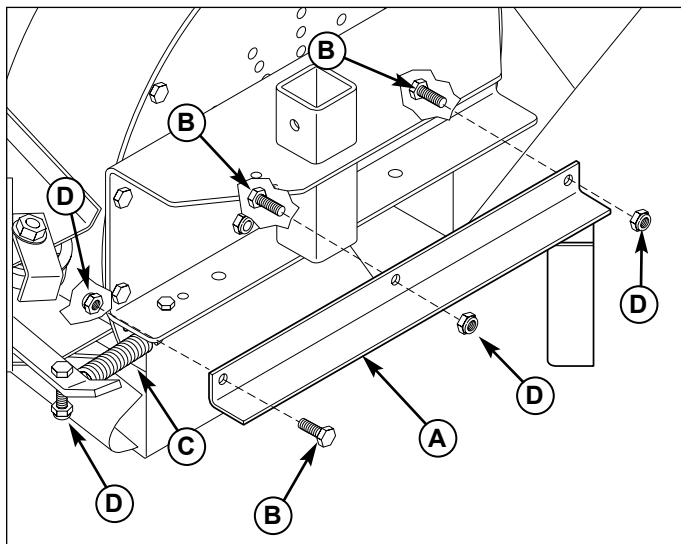

Figure 27. Install Support Rail & Spring
9. Install the deck support rail (A, Figure 27) and fasten with the 5/16-18 x 3/4" bolts (B) and 5/16-18 nylon lock nuts (D) as shown. Note the direction of the bolts, this is critical.
10. Install the spring (C) on the idler arm and secure with the 5/16" nylon lock nut (D). Only tighten the nut until the threads come through the nylon. Do not clamp spring.